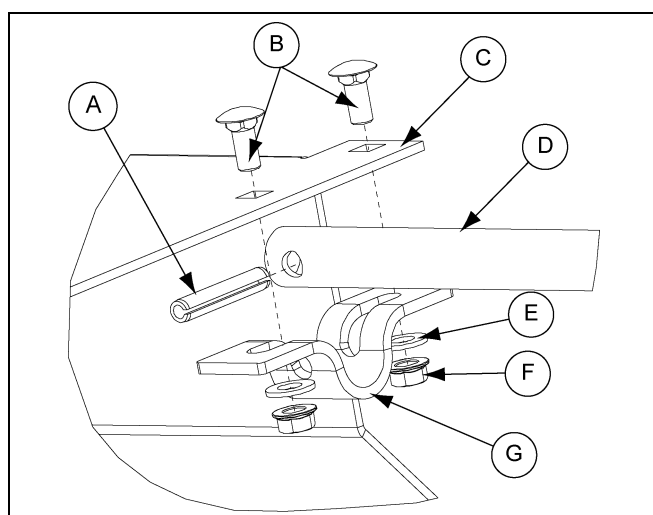

Figure 4N
- Close the centerwell control gate (C) completely.
- Align the centerwell control rod (D) between the two (2) holes in the centerwell control gate (C).
- Attach the 1/2" control rod clamp (G) to the centerwell control rod (D) by sliding 5/16" x 1-3/4" roll pin (A) through the clamp and the rod.
- Fasten the control rod clamp (G) to the bottom side of the centerwell control gate (C) by using two (2) 5/16" x 3/4" carriage bolts (B), flat washers (E) and serrated flange nuts (F). Install the nuts so that they secure the roll pin in place. (See Figure 4N.)